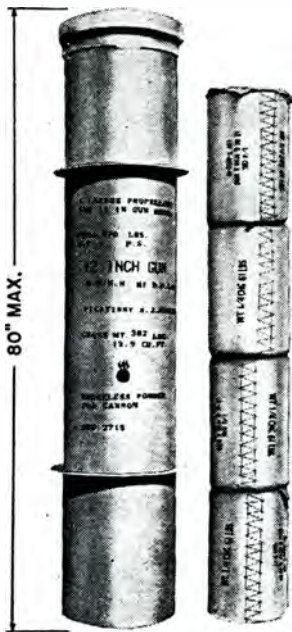

Figure 18. Powder charge and storage case.
33. POWDER CHARGE. Do not bring the powder charge (fig. 18) for any given round near the breech until the preceding round has been fired, the powder chamber blown out with compressed air (or sponged), the face of the mushroom head sponged with clean water, and the bore announced clear. Keep all powder charges in the magazine in their containers except the charge which is to be served to the piece for the next succeeding round (FM 4-20).